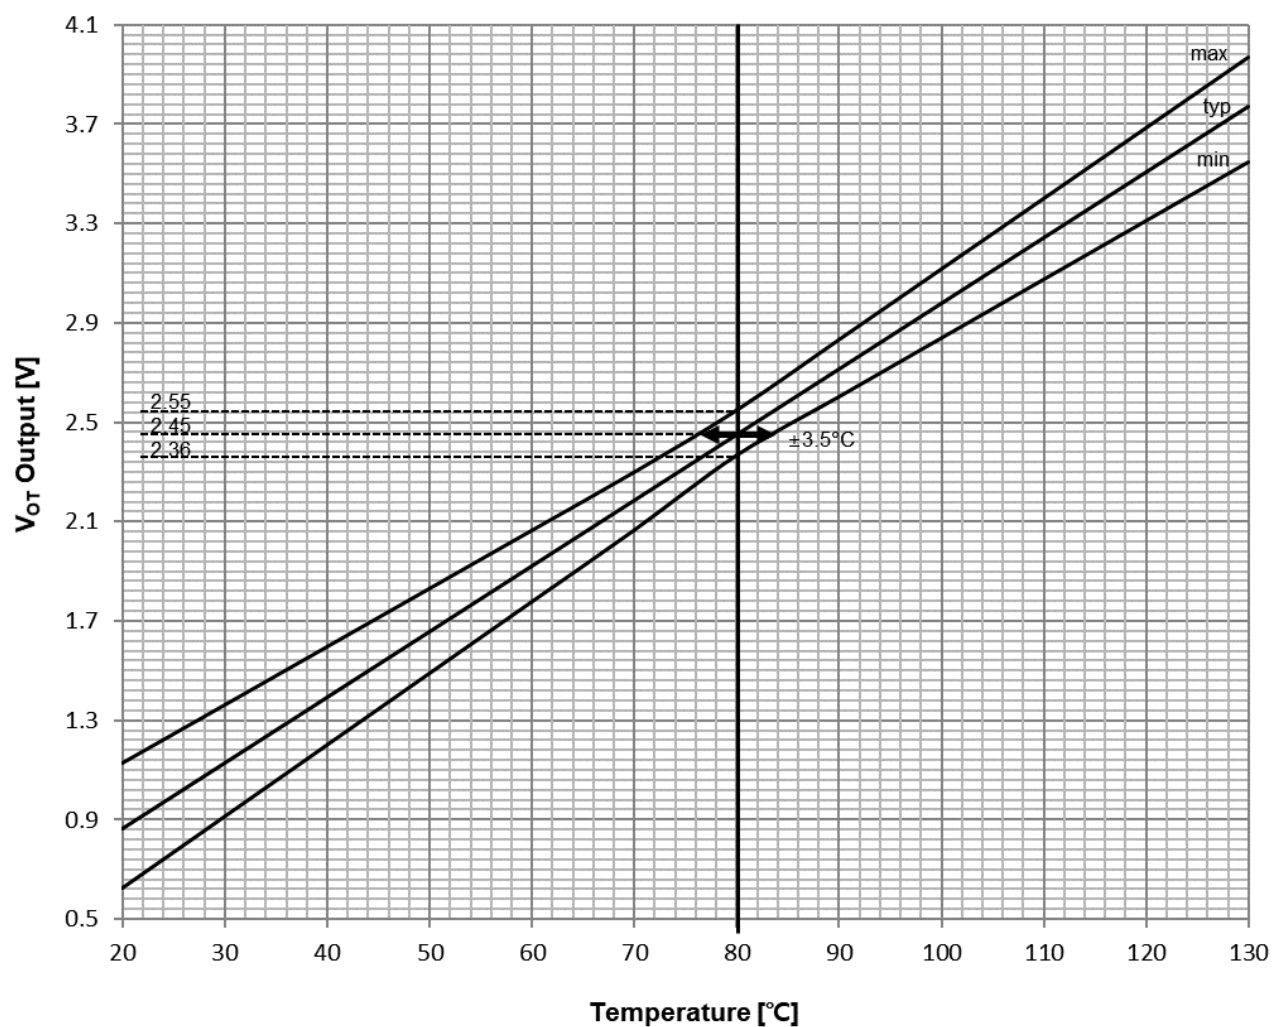

Figure 3. Temperature of LVIC vs. V_{OT} Output Characteristics
- (1) Both VOT function and OT (Over temperature) protection are simultaneously enabled without the pull-down resistor.
- (2) If pull-down resistor (10kΩ) is connected to VOT pin, the temperature monitoring function is only used with disabling OT protection.
- (3) Not to use VOT, leave VOT output with no-connection.
- (4) When connecting VOT to MCU powered with e.g. 3.3V, V_{OT} output could exceed MCU supply voltage as temperature rises excessively. To prevent V_{OT} exceeding MCU supply voltage, it is recommended to insert a clamp diode between control supply of the controller and VOT output for preventing over voltage destruction.
- Depending on temperature, V_{OT} will be out as shown in Figure 3.